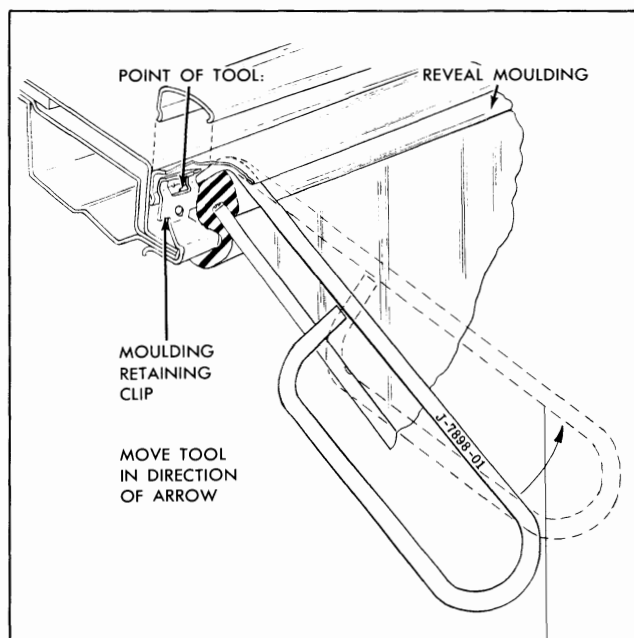

Fig. 2-5 Reveal Molding Removing Tool
6. On all except 47 and 67 styles tool J-7898-01 may be used to remove the side and upper reveal moldings. When using reveal molding removing tool J-7898-01, carefully lift up edge of molding sufficiently to engage point of tool between molding and molding clip as indicated in illustration to disengage prongs of clip from molding and lift molding free of clip. Repeat this operation at each molding clip (Fig. 2-5).
8. On all except 67 styles, carefully remove the upper reveal molding with tool J-7898-01 (Fig. 2-5) or flat-bladed tool as required. On 67 styles remove screws at outer ends of molding; then, remove upper garnish molding to gain access to stud nuts. Remove nuts and moldings.